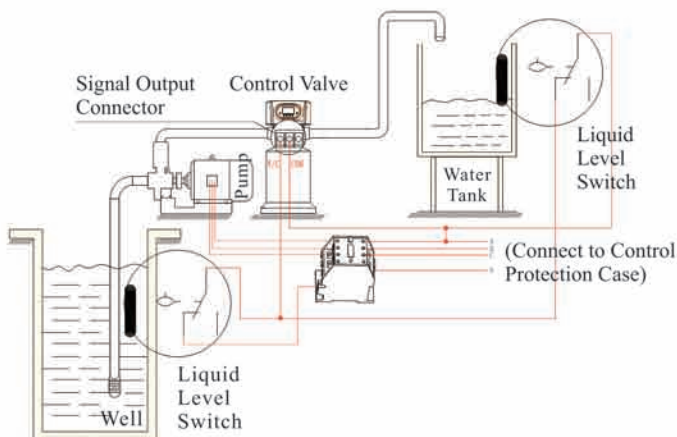

Figure 3-6 Wiring of Liquid Level Switch in Water Tank Controls Inlet Pump
3) Liquid Level Switch in Water Tank Controls Inlet pump (Three-phase motor, Figure 3-6) (Set as b-01)